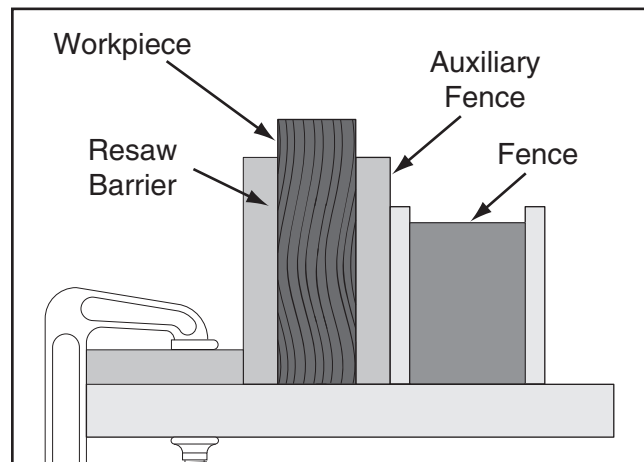

Figure 72. Ideal resaw workpiece setup.
5. Place workpiece against auxiliary fence and slide resaw barrier against workpiece, as shown in **Figure 72**. Now clamp resaw barrier to top of table saw at both ends.